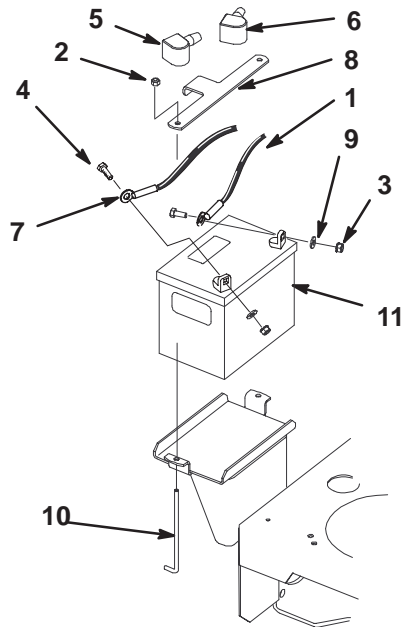

Figure 49
3. Lift the black rubber cover up on the negative cable. Disconnect the negative (black) ground cable from the battery post (Fig. 49).
4. Lift the red rubber cover up on the positive cable. Disconnect the positive cable (red cover) from the battery post (Fig. 49).
- Remove the battery hold down plate (Fig. 49). Remove battery from the machine.
- Place the battery into the machine (Fig. 49).
- Secure battery with hold down plate, nuts and battery hold down (Fig. 49).
- Using the bolt and nut, connect the positive (red cover) cable to the positive (+) battery post (Fig. 49). Slide the rubber cover over the battery post.
- Using the bolt and nut, connect the negative (black) cable to the negative (-) battery post (Fig. 49). Slide the rubber cover over the battery post.